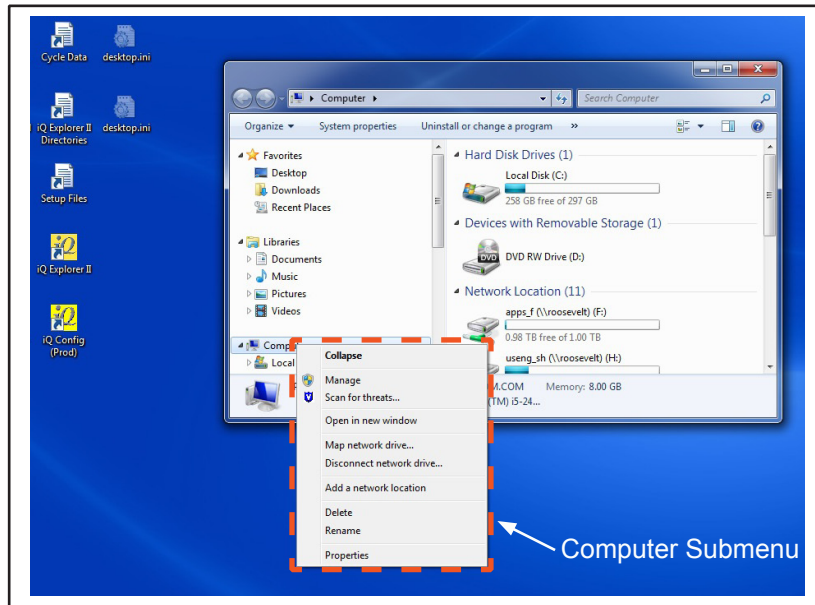

Figure 2-9 Computer, Right Click Displays Submenu (Windows 7)
- With the Computer window open, right click to display the Computer submenu as shown below in Figure 2-9.